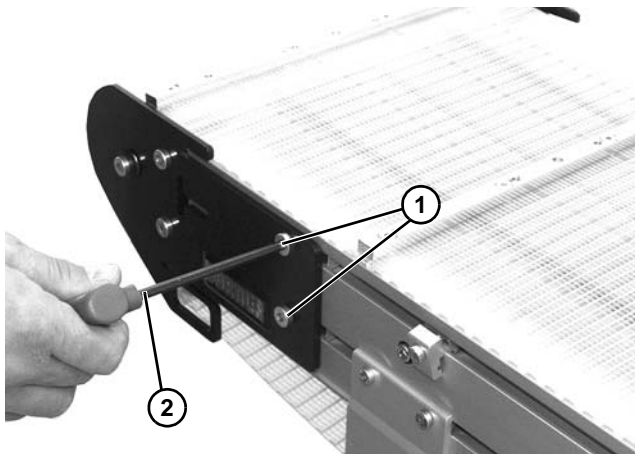

Figure 27
2. For fixture belt conveyor, loosen UHMW support screw of idler tails. Loosen screw (Figure 27, item 1) on both sides of tail with hex wrench (Figure 27, item 2).
6. Tighten UHMW support screws (Figure 27, item 1) to 69 in-lbs (7.8 Nm).